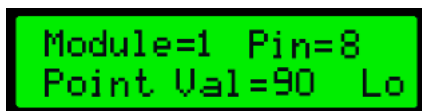

Figure 1 – Controller Module Screen.
- For example, if the Input Module address is set to 1, Figure 1 shows the output that will be seen on the Controller screen